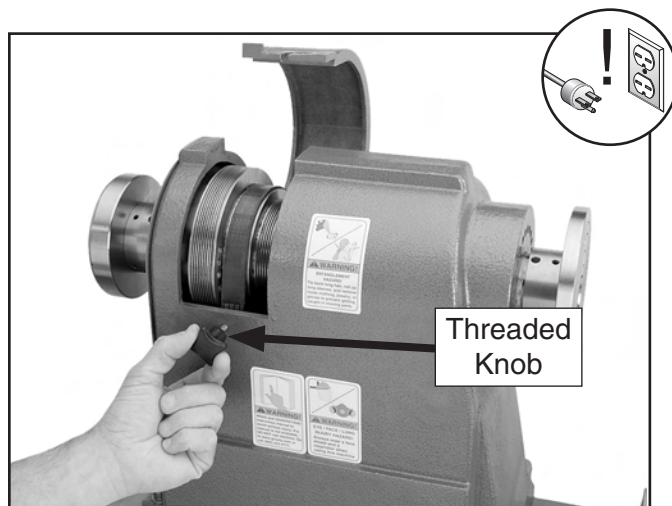

Figure 23. Belt access panel removed.
2. Remove the threaded knob and open the upper belt access panel, as shown in **Figure 23**.